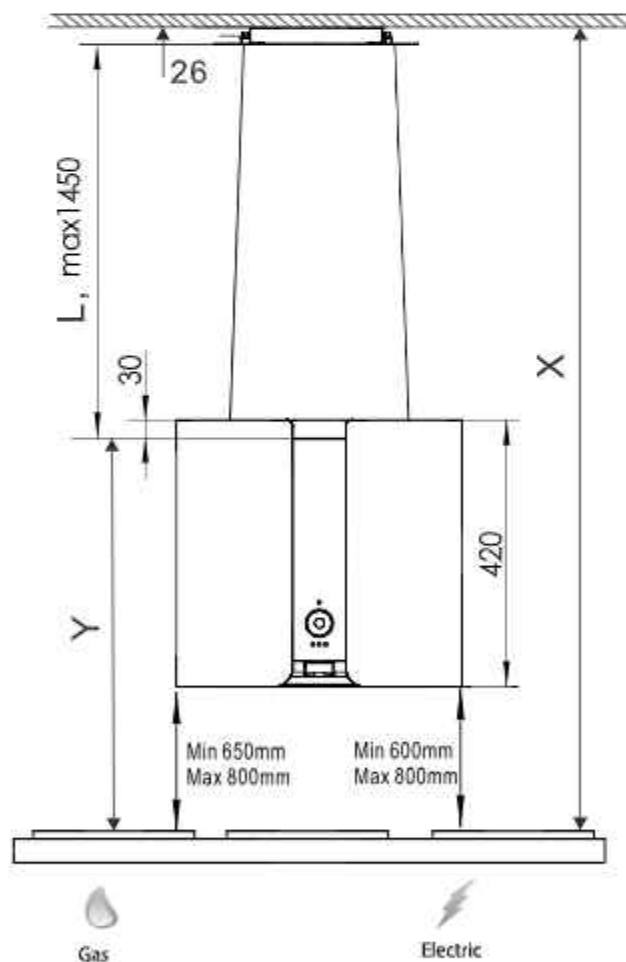

Fig.5
5. Measure the wiring length(L) refer to the dimension indicated Fig.5 on page 7. $L=X-Y-26$ (unit: mm). Mark a line on the wiring.